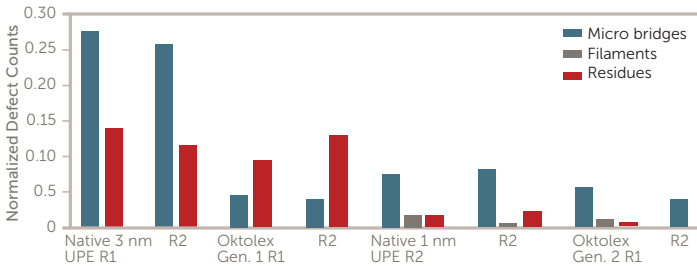

Figure 3. Normalized defect pareto.
A typical defect pareto is shown in Figure 3. Each bar represents the normalized average of three wafers. For an easier comparison, data are normalized on aged resist results. The main defectivity mode related to resist filtration are micro-bridges and residues. Few filaments were also observed. On-top particles are mainly modulated by developer and rinse filtration, as reported elsewhere.¹ Defect from UL are not modulated by resist filtration and are not object of this study. As we focus this research on resist filtration, both on-top and UL defects are removed from Figure 3 for clarity.
Recently, imec has manufactured Ge GAA FETs with small gate length (40 nm) using this selective etch for Ge nanowire release.³ In the following paragraph and Fig. 3, the details of manufacturing are summarized: a SiGe/Ge/SiGe multistack is grown lattice matched to a 300 mm (100) Si substrate. The SiGe layer consists of 55%–70% atomic Ge. Subsequently fins are etched with 45 nm pitch and isolated using shallow trench isolation (STI). To release the Ge nanowires, the sacrificial SiGe is selectively removed in the dummy gate cavity through wet processing. SiO₂/HfO₂ dielectrics and TiAl based workfunction metal is formed around the channel, with diameter of 9 nm.
Figure 3. Process flow and Coventor® images (a) – (d) illustrating fabrication of strained Ge GAA NW devices starting from a 300 mm Siltronic® Si_{0.3}Ge_{0.7} strain relaxed buffer (SRB) substrate using wet sacrificial SiGe removal to release the strained Ge wires inside the dummy gatecavity.³